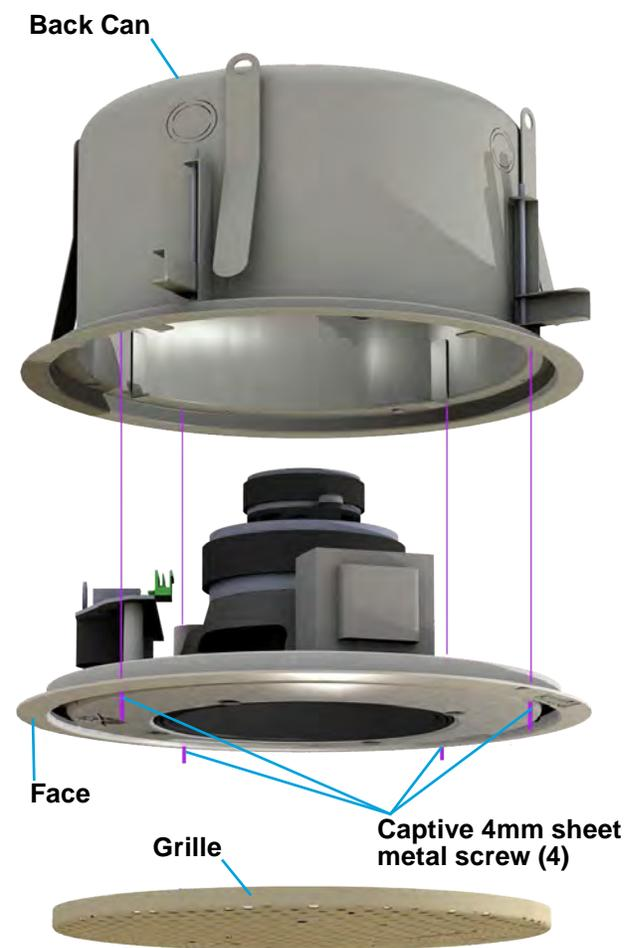

Figure 32. Use the four included, captive, 4mm sheet metal screws to secure the loudspeaker into the can.
3. Four 4mm sheet metal screws come from the factory partially inserted into the plastic face. Use a screwdriver to install these captive screws into the can. Tighten so they are snug against the face, but do not over-tighten them. See Figure 32.